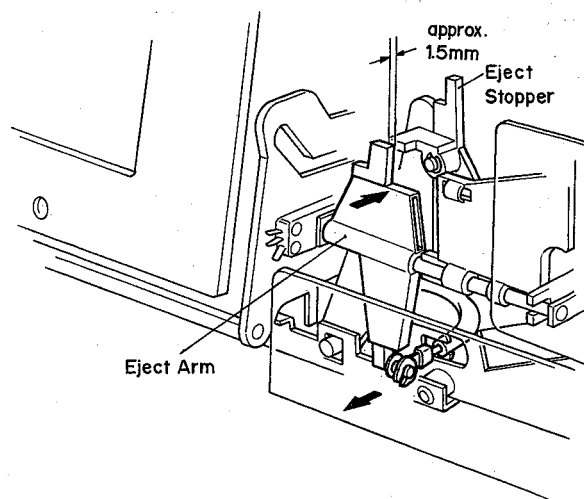

Fig. 5.18.1
- (1) Referring to Fig. 5.18.1, insert a 1.5 mm spacer between the Eject Arm and Eject Stopper by turning the Eject Arm in the illustrated direction, then set the N-482 in playback mode.